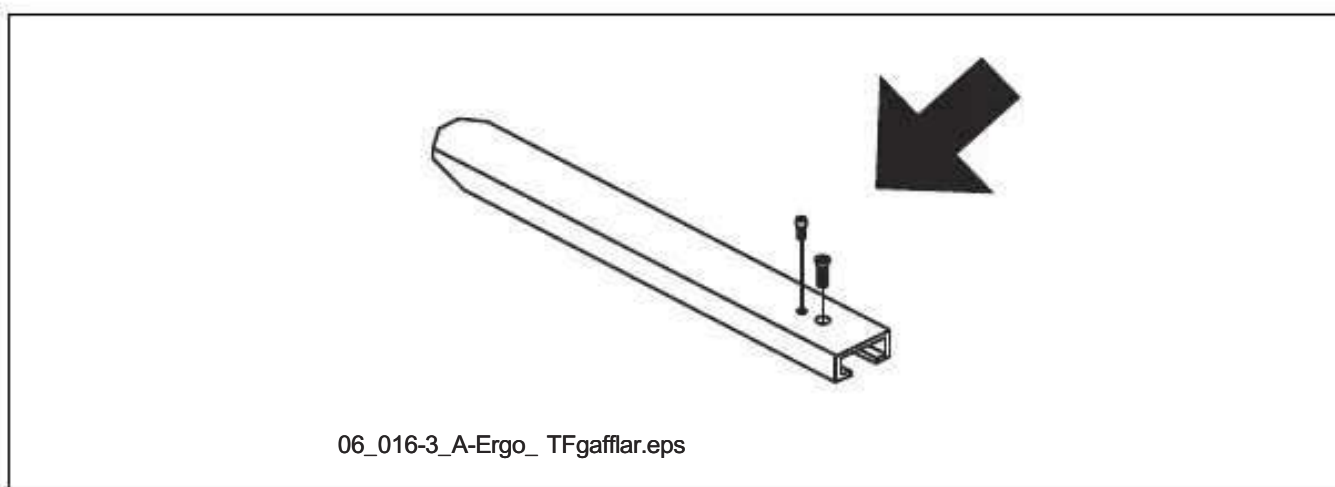

**Figure 6.31** Fork attachment
7. Unscrew the screws on the forks and pull off the forks, see figure 6.31.